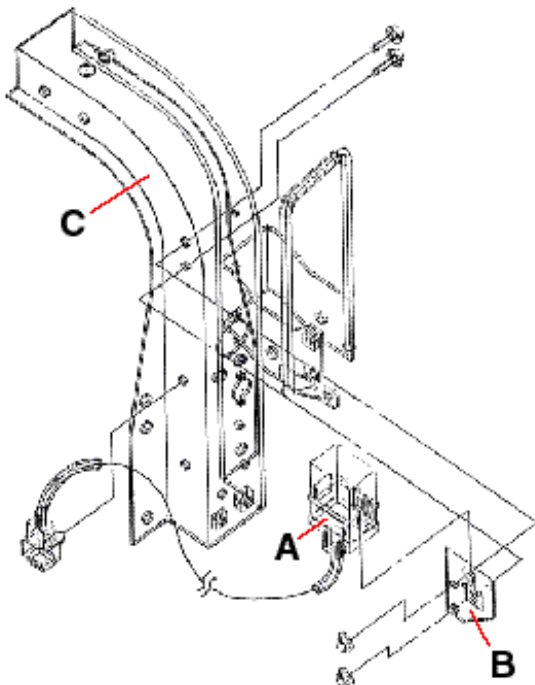

FIGURE 8a UD1800/UD2000/UD2300
8. Insert the new relay (A) on the relay bracket (B) and mount the bracket onto the rear cab support bracket (C) as shown in Figures 8a and 8b below.
8a. As shown in Figure 8a, attach the relay bracket (B) directly onto the rear cab support bracket (C) on UD1800/UD2000/UD2300 using the two (2) bolts and nuts provided.